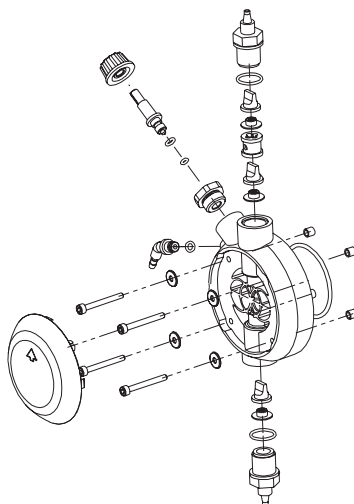

Fig. 11
3. Drain or flush all dosing liquid from the pump head. This operation can also be done with the pump disconnected from the plant by turning the pump upside-down for 15 to 30 seconds and without connecting the tubing to the nipples: if this operation is not possible, dismount and remount the pump head using the four mounting screws. (Fig. 11).
- the additive concentration in the pipework; a reduction of this concentration could be caused by the wearing of the valves, in which case they need to be replaced (Fig. 11) or by the clogging of the filter which then has to be cleaned as in point 3 here below.
This operation can also be done with the pump disconnected from the plant by turning the pump upside-down for 15 to 30 seconds and without connecting the hose to the nipples; if impossible, dismount and remount the pump head (Fig. 11) using the four mounting screws.